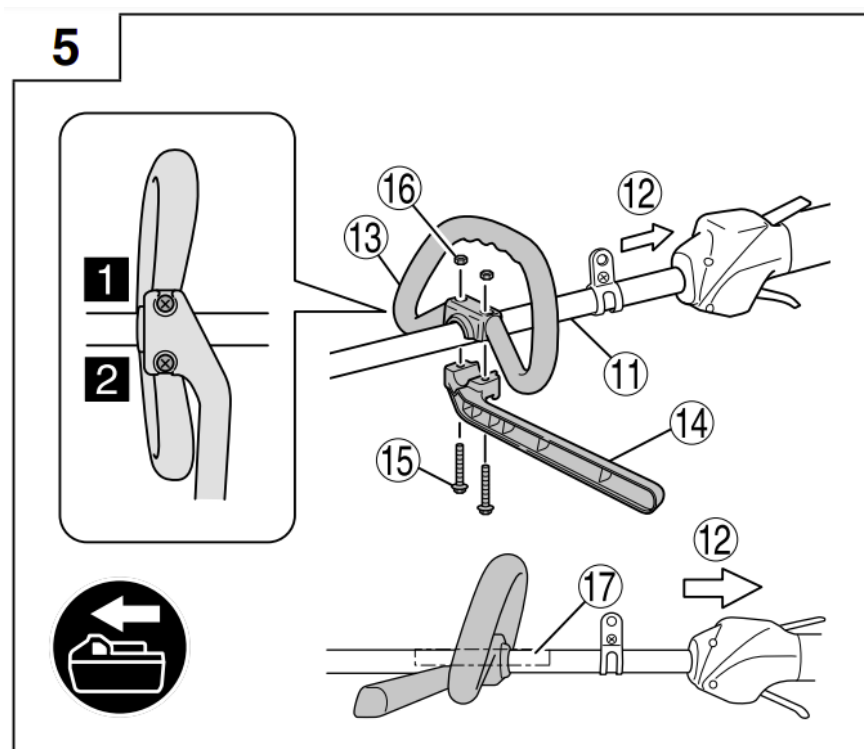

Fig. 5
Installing the loop handle (Fig. 5) (CG36DB(L) only)
If your unit has handle location label on main pipe, follow the illustration. (Fig. 5)